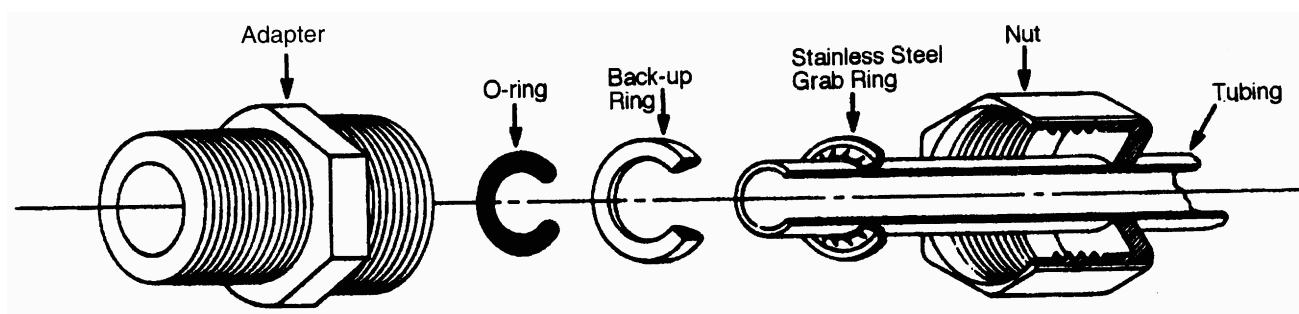

Figure 6: Typical Polypropylene Tubing Adapter Installation
1. Completely disassemble the fitting. Refer to Figure 6 to familiarize yourself with the names of the component parts.
3. Place the grab ring and backup ring in the hex nut in the order and orientation shown in Figure 6. Thread the nut onto the adapter. **DO NOT** use the o-ring at this time.